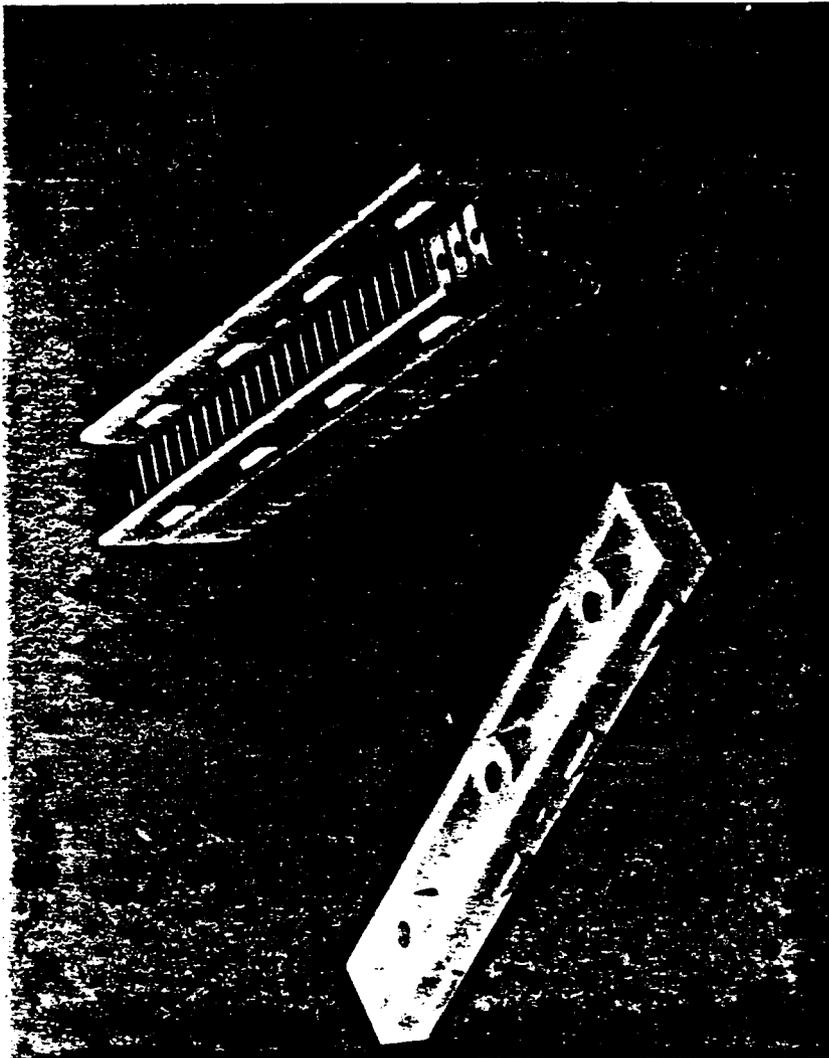

FIGURE 1
1.11 The block permits a solderless, stripless connection to be made. This type of quick connect device is known as a slotted beam insulation displacement type. (See Figure 1)
9.31 If one or more of the "V" clip terminals within the 94 type block become defective they can be replaced. See Figure 1. Place finger nails at rear plate of block, pull sides of block to make rear block plate open. Individual clips that are defective can now be removed from block.